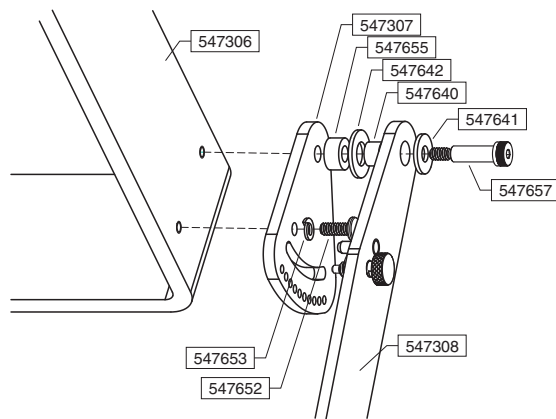

Figure 4.8 Keyboard tray flange assembly
3. Insert one thrust bushing (2x 547642) on each side. Next, place a spacer (2x 547655) on each shoulder screw. See Figure 4.8.